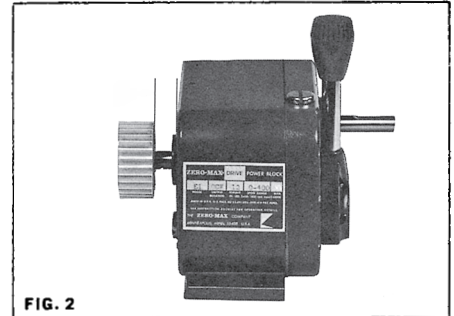

FIG. 2
STEP III Insert the nylon gear onto the input shaft of the Zero-Max Drive matching the internal flat in the gear to the external flat on the shaft. Tap lightly with a soft hammer on the center portion of the gear, being careful not to strike the gear on the gear teeth. The gear will be in place when it is 1/32" from the drive case disregarding the bead and the boss. (See Fig. 2)
- STEP I** Using a Phillips Head screwdriver remove Zero-Max drive case screws, Nos. 1, 4, and 6 as shown in Fig. 2.